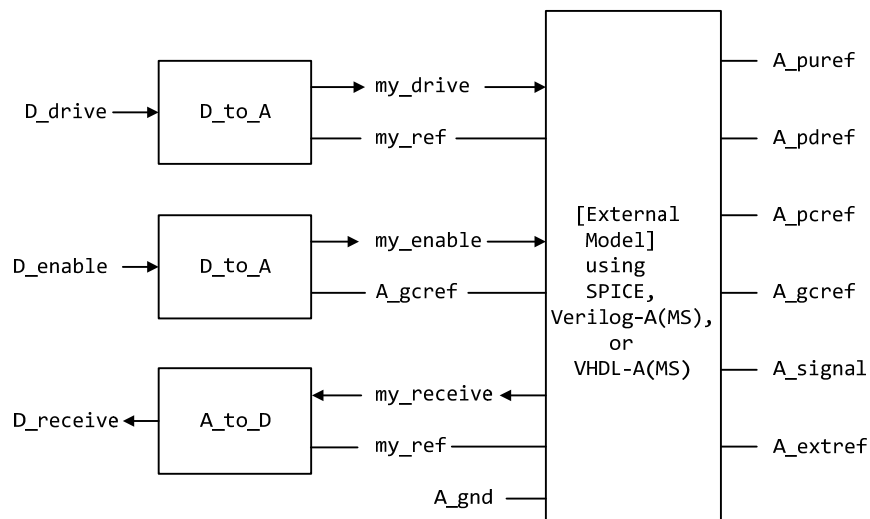

Figure 25 - Example of an [External Model] I/O Buffer Using SPICE, Verilog-A(MS), or VHDL-A(MS)
A conceptual diagram of the port connections of a SPICE, Verilog-A(MS) or VHDL-A(MS) [External Model] is shown in Figure 25. The example illustrates an I/O buffer. Note that the drawing implies that the D_receive state changes in response to the analog signal my_receive, not A_signal: